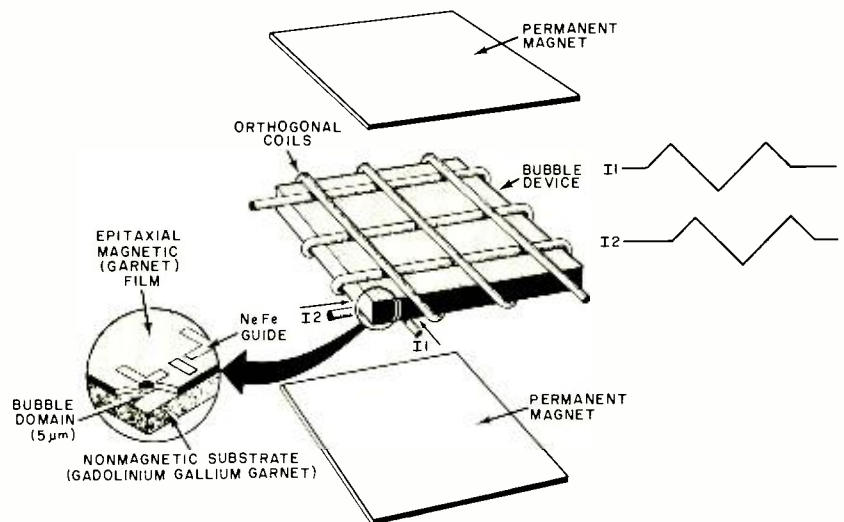

Fig. 2. Basic arrangement of a bubble-memory chip. Thin magnetic film is diffused on substrate with small bars in shapes of letters I and T.
**Physical Construction.** The basic arrangement of a bubble-memory chip is shown in Fig. 2. The actual bubble device (with one corner enlarged) reveals that the thin magnetic film is diffused on a nonmagnetic substrate, along with small bars that are shaped like the letters I and T.
The bubble device is mounted between two thin permanent magnets to create the tiny bubbles. Surrounding the bubble device is a pair of orthogonal coils (right angles to each other). Since we know that the magnetic bubbles are affected by magnetic fields, passing a current through the orthogonal coils, 90° apart and in-phase, will cause the bubbles to move around. Using the current flow shown in Fig. 2, the magnetic field will rotate.